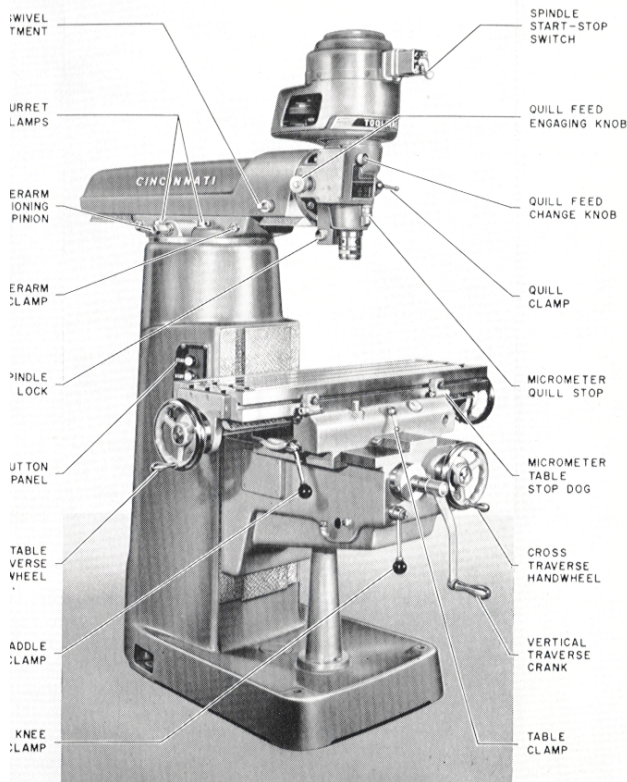

Figure 16
**Overarm and Turret** — A hand crank is provided to move the overarm. Two clamping nuts as shown in Figure 16 hold the overarm in place. The turret is swiveled manually and held in place by the clamping nuts shown in Figure 16.